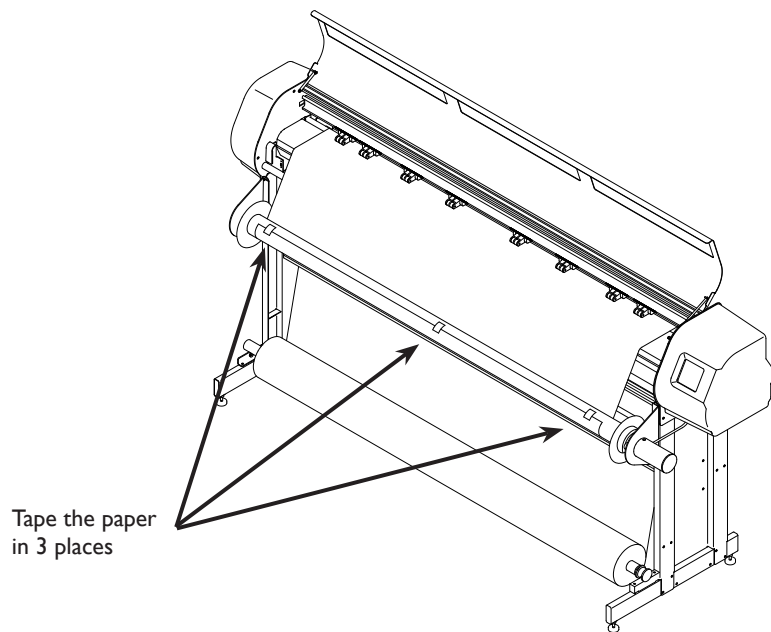

Figure 19. Taping the paper to the take-up shaft.
2. Place 3 short pieces of masking tape within easy reach on the safety cover. (See *Figure 19.*)